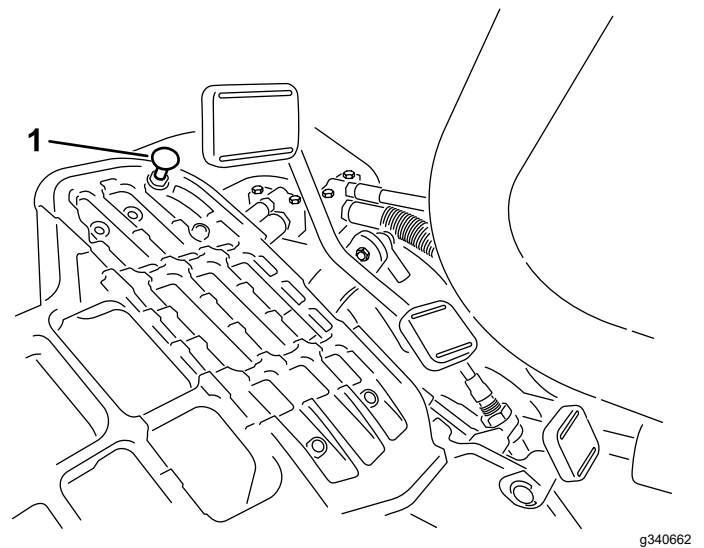

Figure 45
To obtain the maximum-transport speed, put the functional control lever in the TRANSPORT position and press down on the traction pedal. If the pedal contacts the stop (Figure 45) before you feel tension on the cable, perform the following adjustment procedure:
1. Put the functional-control lever in the TRANSPORT position and loosen the locknut securing the pedal stop to the floor plate (Figure 45).